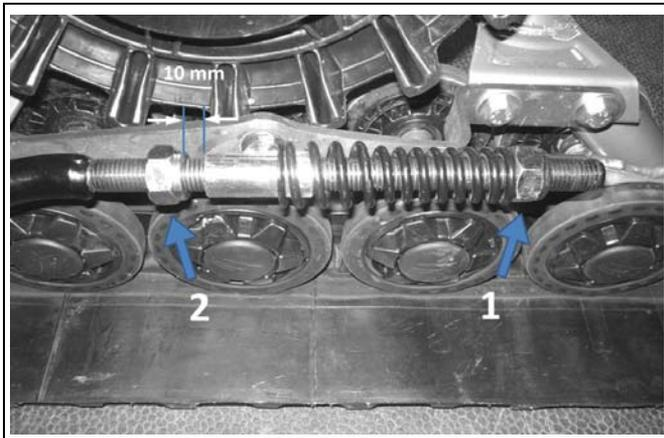

Figure 8
- Loosen the nut (1) compressing the spring of the stabilizing rod (see Figure 8).
- Set the nut (2) to obtain a distance of 10 mm as shown.
- Turn nut (1) until it comes in contact with the spring, then compress the spring by turning the nut 1 1/2 turns.